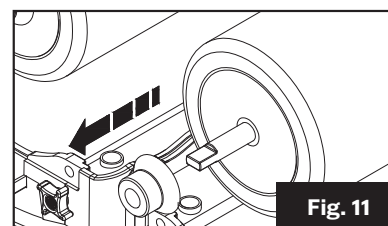

Fig. 11
4. Gently pull on the spiral blade gasket to remove. (Fig. 11)